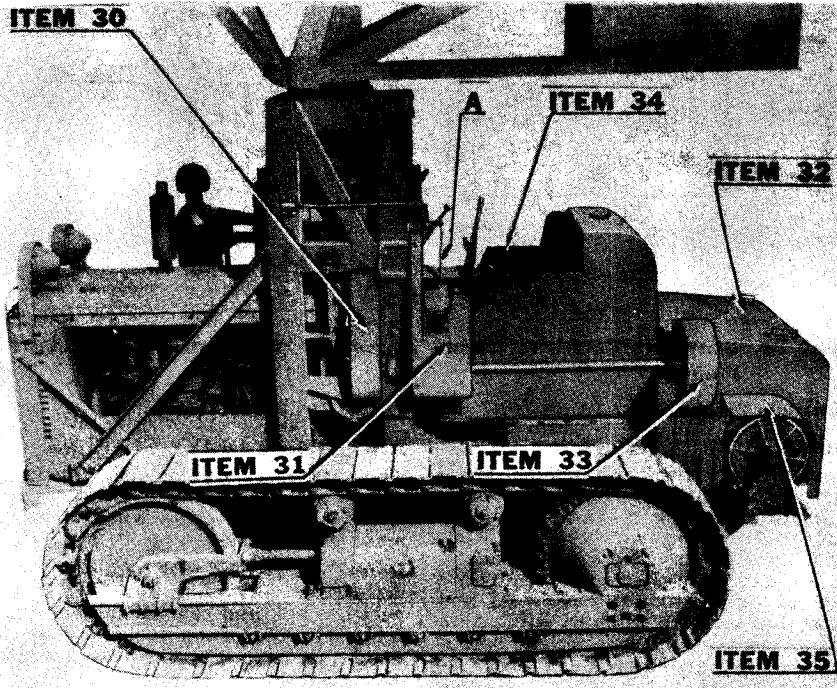

Figure 27 Mounting Shields
ITEM 30 - Figure 27
Place the shield over the sheave located on the front end of the countershaft. Bolt the shield to the main frame with three capscrews provided. See (Item 30), Figure 27.
ITEM 31 - Figure 27
Refer to the link and bell crank lever designated (A) on Figure 27. Disconnect the link and remove the bell crank lever. Raise the main shield over the revolving drive control lever. See (Item 31), Figure 27.
ITEM 32 - Figure 27
Place the rear shield over the rear drive and hoist gear housing. The outside face of the shield sets next to the inside flange of the hoist drums. Refer to (Item 32), Figure 27.
ITEM 33 - Figure 27
Slide the lower plate of the shield between the load cable and the countershaft support. See (Item 33), Figure 27. Attach the shield to the main rear cover.
ITEM 34 - Figure 27
ITEM 35 - Figure 27
Bolt a shield to each side of the main cover as shown (Item 35), Figure 27.